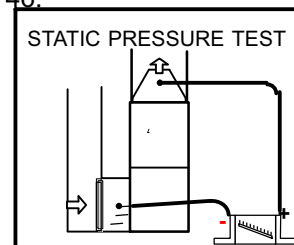

FIGURE 46
- 1 - Tap locations shown in figure 46.